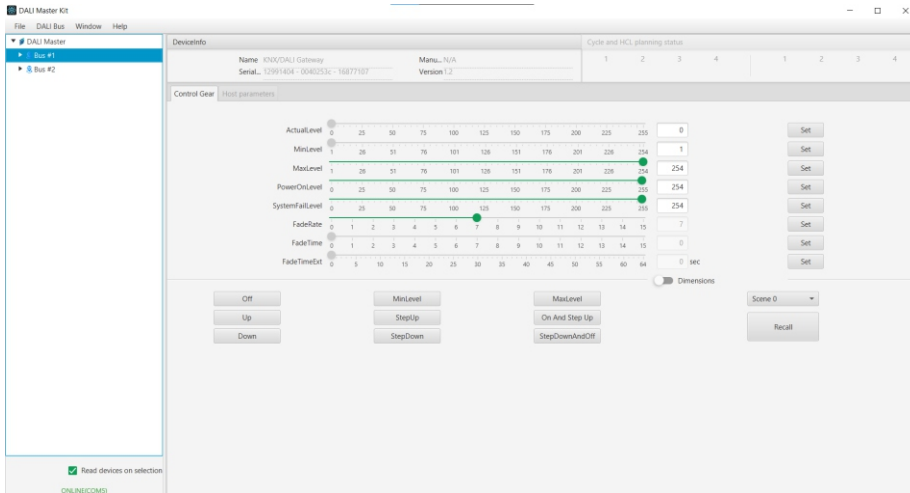

Figure 1
2.1. Once the "DALI Master" PC software is running, the 2 channels DALI will be discovered and shown on the left of the window automatically, then click to choose "Bus #1" on the left as shown in Figure 1.